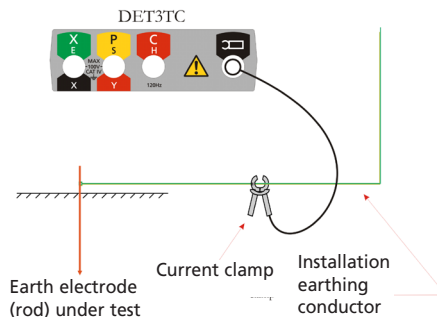

Figure 8: Connections for measuring current using the current clamp
1. With the selector switch in the 'OFF' position, connect the instrument, as shown in Figure 8 and close the ICLAMP around the earthing conductor under test.